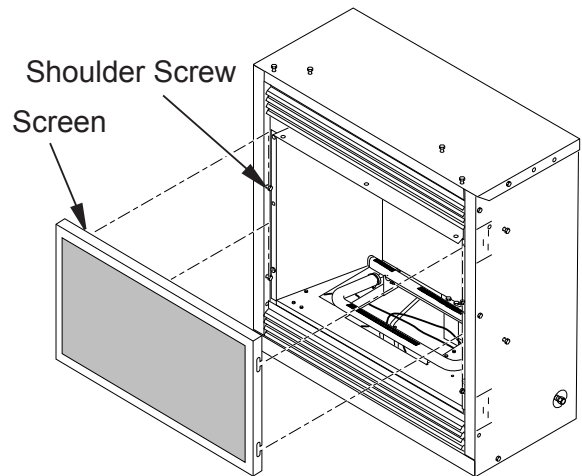

Figure 2 - Removing and Installing Screen
1. If equipped, lift fireplace screen up and pull out to remove (see Figure 2). Set screen aside until installation has been completed.